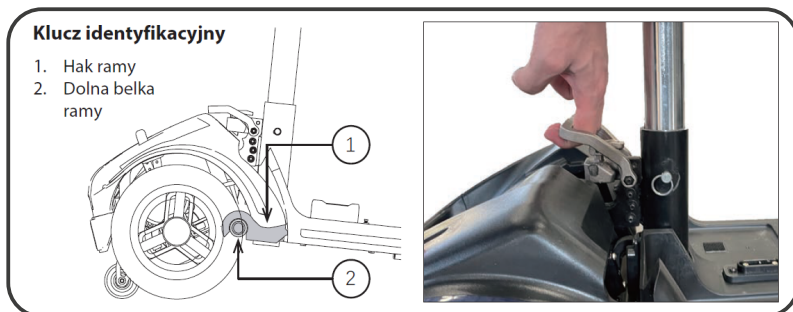

Figure 8. Frame release lever
Before attempting to disassemble, bend the rear of the scooter over the anti-tip wheels, as shown in Figure 8.
3. Slowly separate the two parts of the scooter frame. See Figure 8.
1. Use the front frame release lever (MINI II-D only) to raise and align the front frame hooks to the rear frame bar. See Figure 8.
2. When the front frame hooks are over the rear frame bar, lower the front frame while tilting the rear frame. This will automatically activate the locking mechanism. See Figure 8.